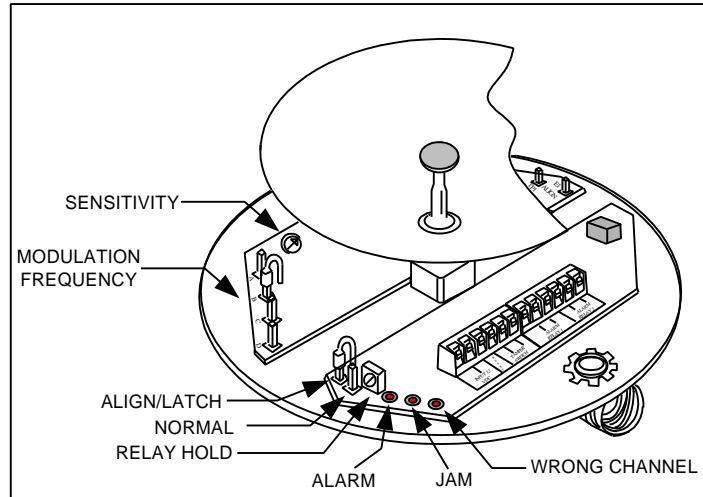

Figure 16 – Model 310BR Receiver
4. Attach PCB jumper wire to appropriate terminal for the desired Receiver channel. (See Figure 16.)
5. Move the Align/Latch – Normal jumper to Latch position. (See Figure 16.)
6. On Receiver, connect VOM to TP1 (Positive Meter Lead), and E1 GND (Negative Meter Lead), with meter range set to 3-5VDC. (See Figure 16.)